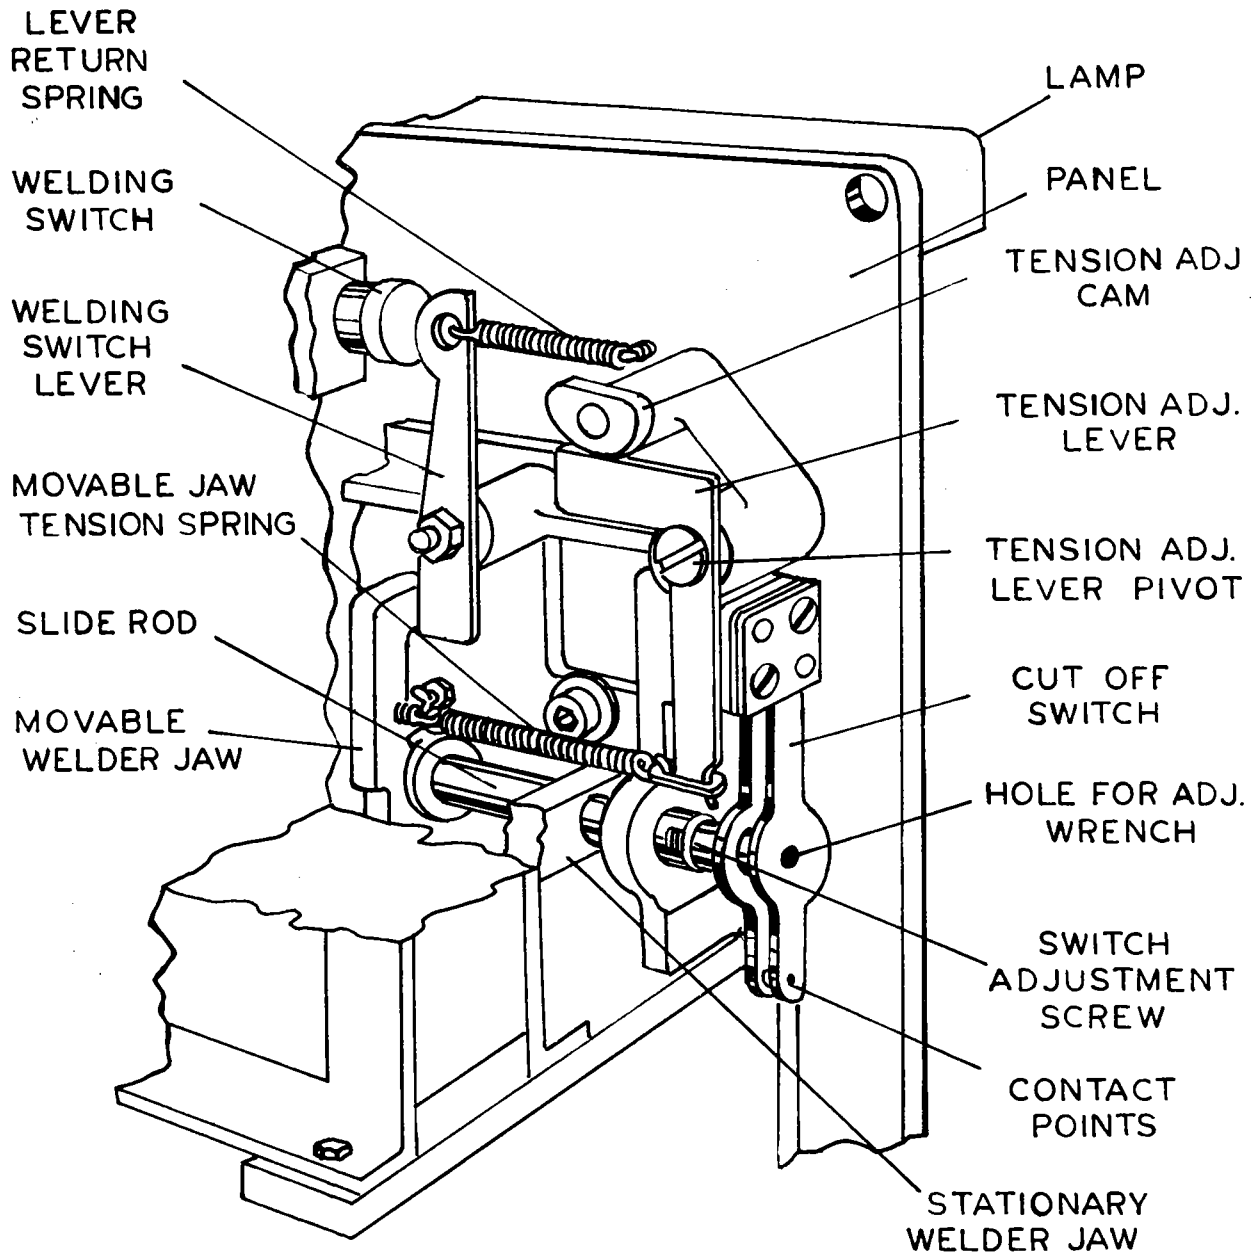

Figure 34
These two failures can be corrected by adjustment of the cutoff switch shown in Fig. 34 which controls the length of time the current flows through the jaws.
2. Remove the welder from the column by removing the four panel screws, grasping the lamp shade as a handle and pulling the panel forward until it is at approximately a 45 degree angle. The angle strip at the bottom of the panel acts as a hinge, and a stop holds the welder assembly from tilting more than 45 degrees outward. The back of the panel shown in Fig. 34 will then be accessible.